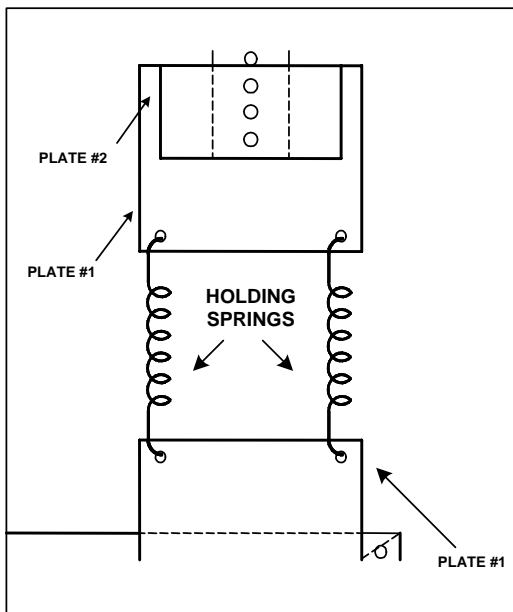

Figure 1-28
- Pull the bottom support bracket plate #1 down and secure it to the bottom support bracket. Verify the springs are approx. 1.5 times their original lengths, move the bottom support bracket if required [See Figure 1-28.]
Car Top Box: The standard *Meridia* Car Top Box contains the terminals for the termination of the traveling cable wires as well as the CPT, COP, CC1, Door Board, Car top inspection station, Work light and Car position indicators. [See Wiring Diagrams for details.] This box must be placed in a convenient location for piping and wiring as well as conforming to any and all codes governing car top clearances. (usually mounted on the front side of car top next to cross head). [See Figure 1-28.]